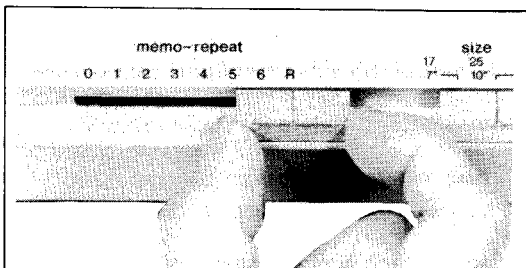

Fig. 6
1. Set the "memo-repeat" knob to the desired number of times you wish to play. (See Fig. 6.) "R" position enables you to repeat play continuously.